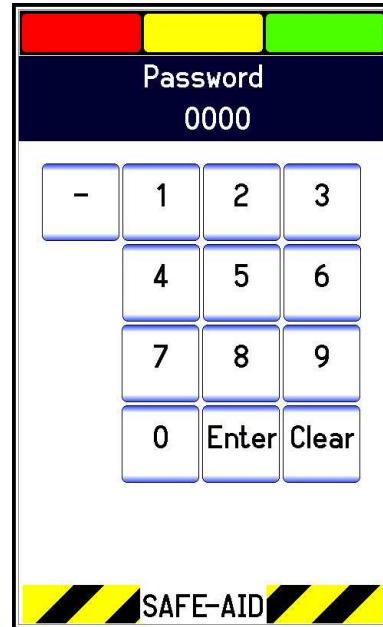

Figure 20
1. To access the wind speed menu from the operating screen press the block where the current wind speed is displayed, a **Password** screen will be displayed (figure 20).